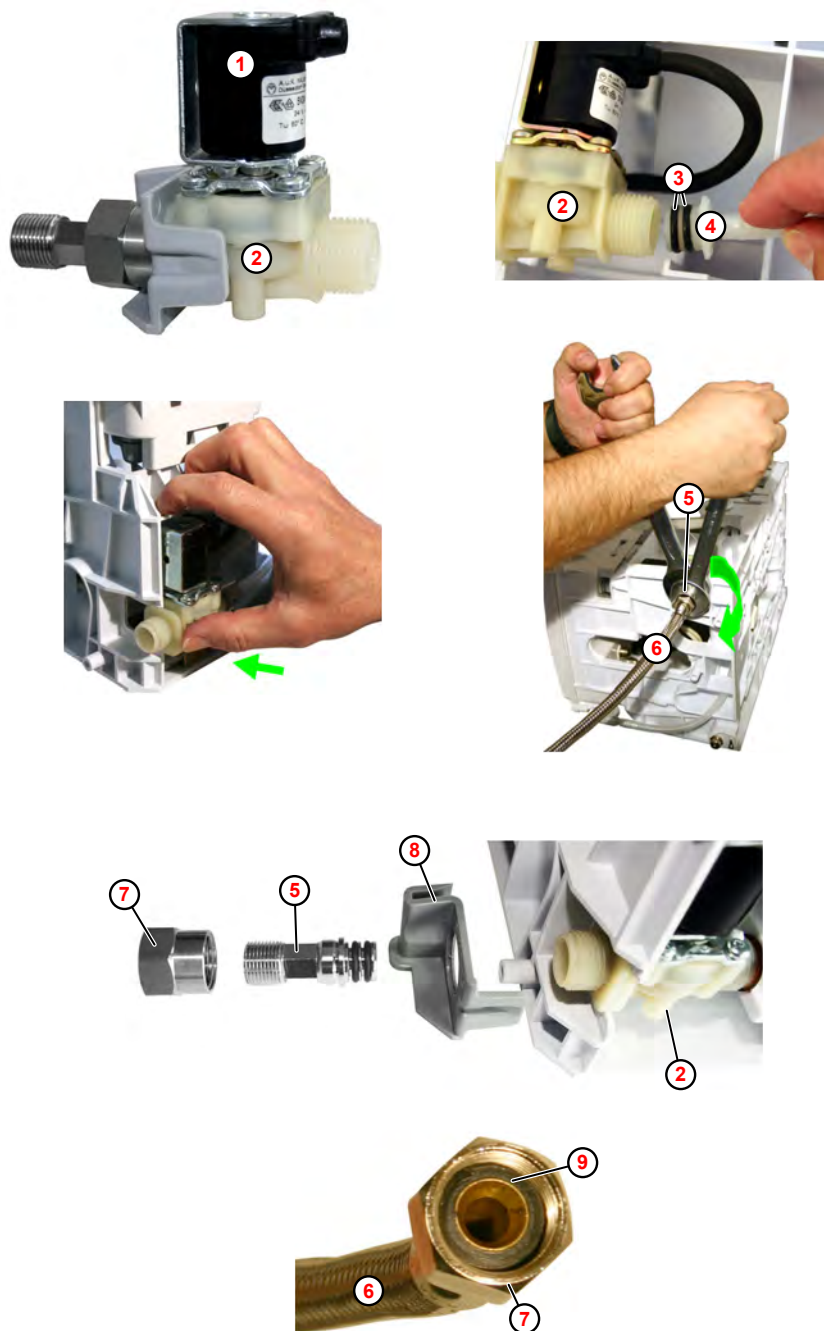

Fig. 19: Solenoid valve assembly
1. ➤ Press the coil ( Fig. 19 , (1) ) against the valve body (2) while turning it approx. 30° clockwise (to the right) until the coil audibly clicks into place.
2. ➤ Clean both O-rings (3) on their connecting nipples (4) using a lint-free cloth.
3. ➤ Guide the connecting nipple (4) into the valve (2) until it is flush with the valve housing.
5. ➤ Attach the fastening element (8) to the valve body and housing.
6. ➤ Carefully insert the connection adapter (5) into the valve body (tight).
7. ➤ Screw the union nut (7) onto the valve body.
8. ➤ Screw the inlet hose (6) onto the connection adapter.